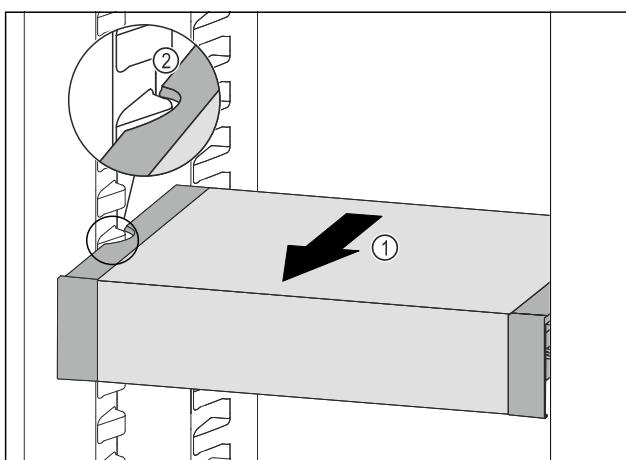

Fig. 104
- ▶ Pull VarioSafe forwards Fig. 104 (1) until the recesses in the side of the VarioSafe are at the level of the support rib in the fridge section. Fig. 104 (2)